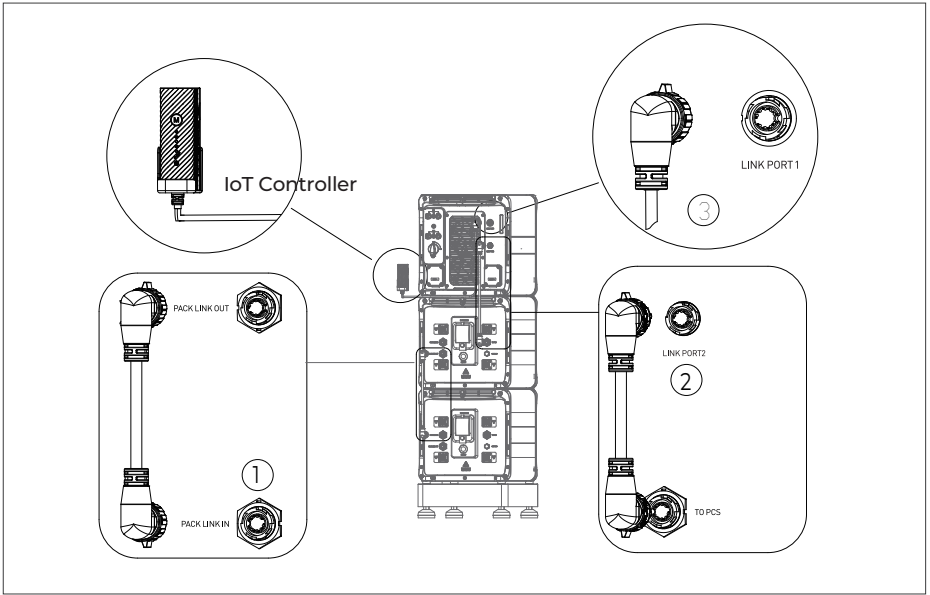

Figure 6-10
To achieve communication between two B500 battery packs, a communication cable is required. Plug one end of the cable to the B500 Link-in port, and the other to the upper B500's Link-out port. See Fig. 6-10 "①".
For communication between the EP800 inverter and B500 battery packs, plug one end of the communication cable to the top B500's inverter signal port (TO Pcs), and the other to the Link Port 2 of the EP800 inverter. See Fig. 6-10 "②".
Connect the IoT controller to the EP800 inverter. See Fig. 6-10 "③".